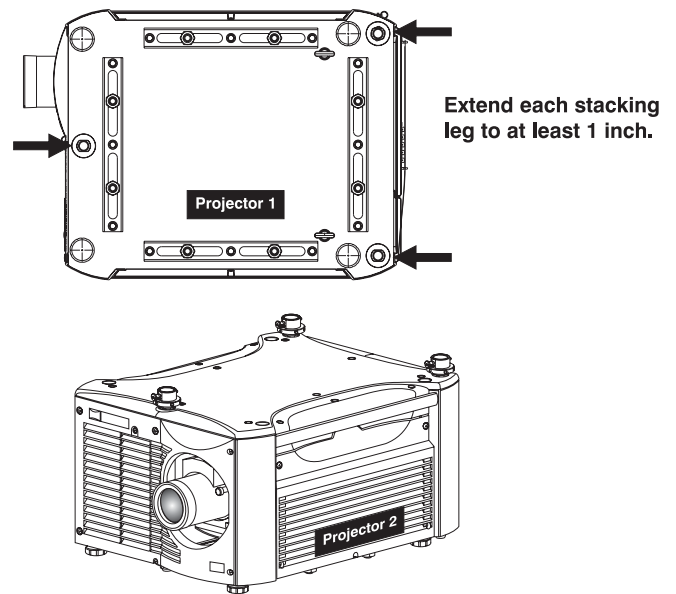

Figure 2.10.
- Place one projector on its side to access its adjustable feet and stacking legs (Figure 2.10).